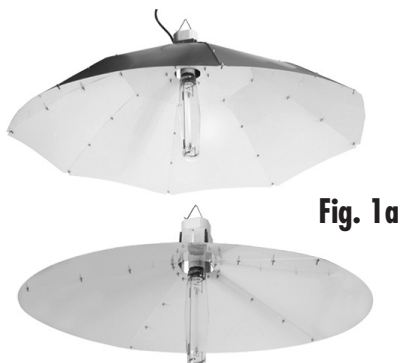

Fig. 1a
1. See **(fig. 1a)** for attaching the socket on Cone and Parabolic reflectors which do not include the socket. Socket assemblies for these reflectors are sold separately. Choose from Product No. 903055 or 903060 **(fig. 1b)**.